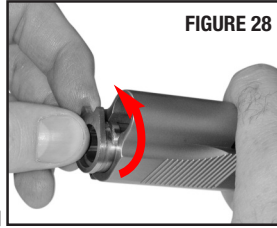

FIGURE 28
- Rotate the barrel bushing counterclockwise until the bushing lug is aligned with the opening between the barrel and recoil spring holes (FIGURE 28). Pull the barrel bushing out the front of the slide.